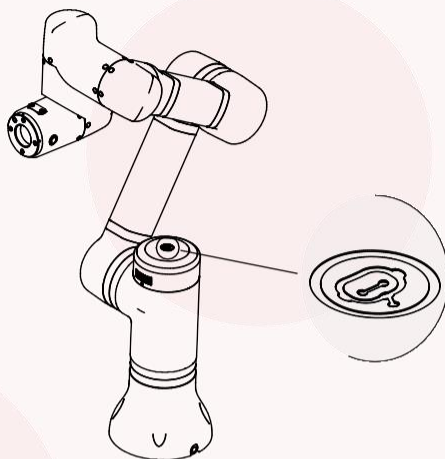

Figure 3.16 Shoulder button
- Doubleclick the shoulder button of the robot, as shown in Figure 3.16 (the button with the logo “白” in the middle of the shoulder light board)